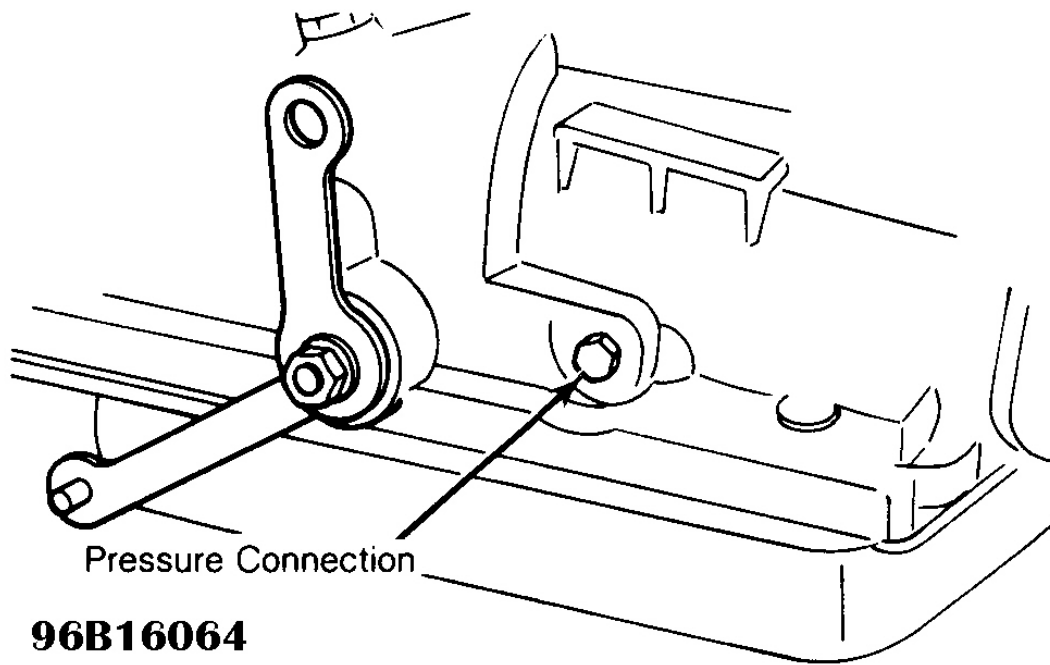

Fig. 8: Control Pressure Outlet Location
2. Connect tachometer to engine. Connect vacuum gauge to manifold vacuum line, using "T" fitting at modulator hookup. Attach pressure gauge to control pressure outlet on transmission case. See **Fig. 8** .